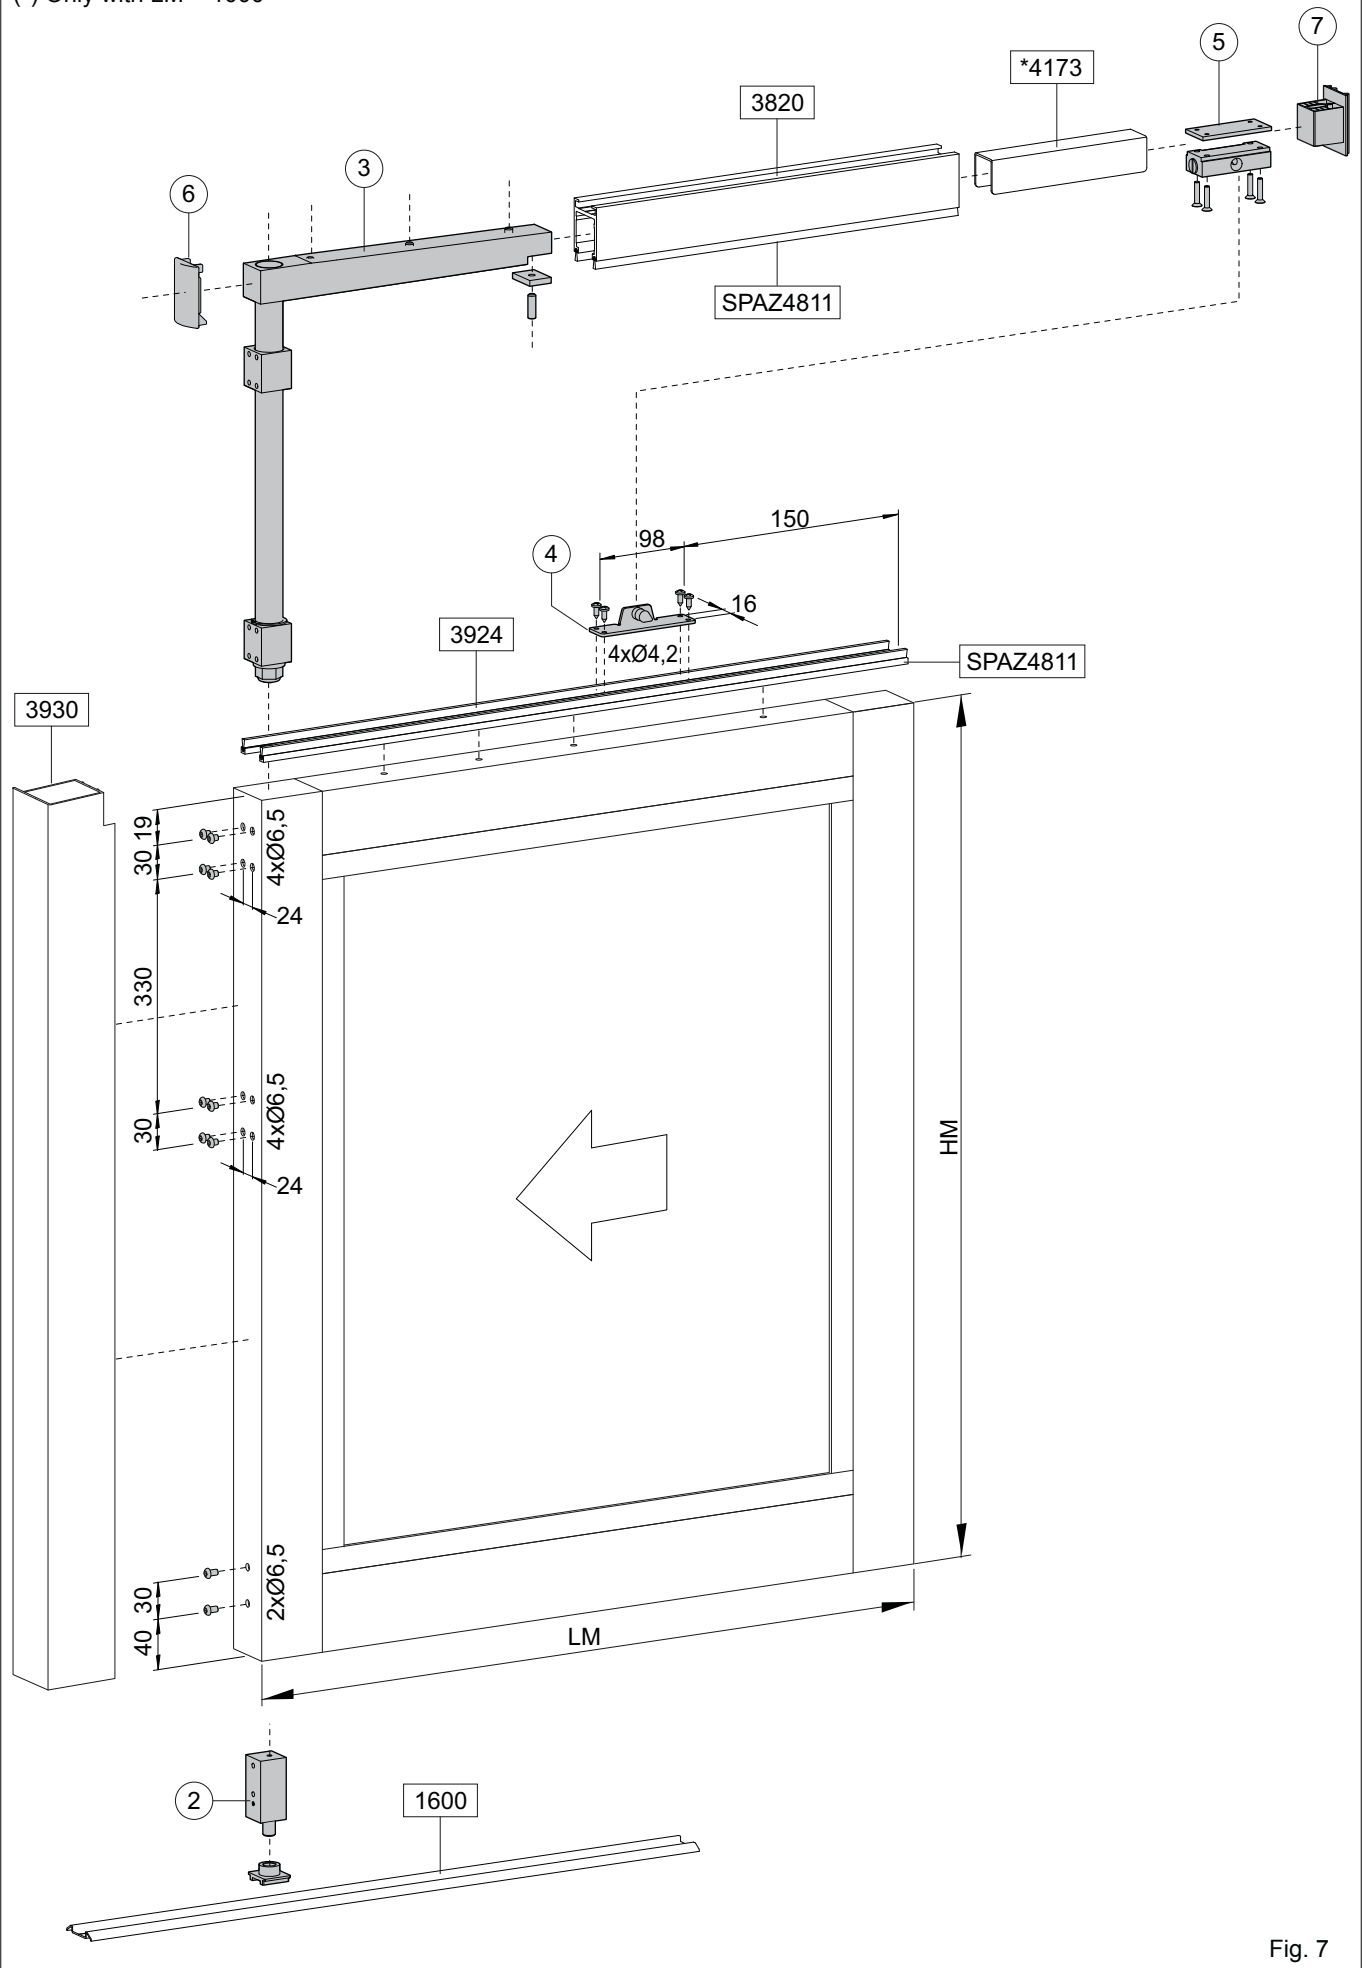

Fig. 7
If the width of the mobile panic wing (LM) is greater than 1000 mm, add reinforcement 4173 (see fig. 7)